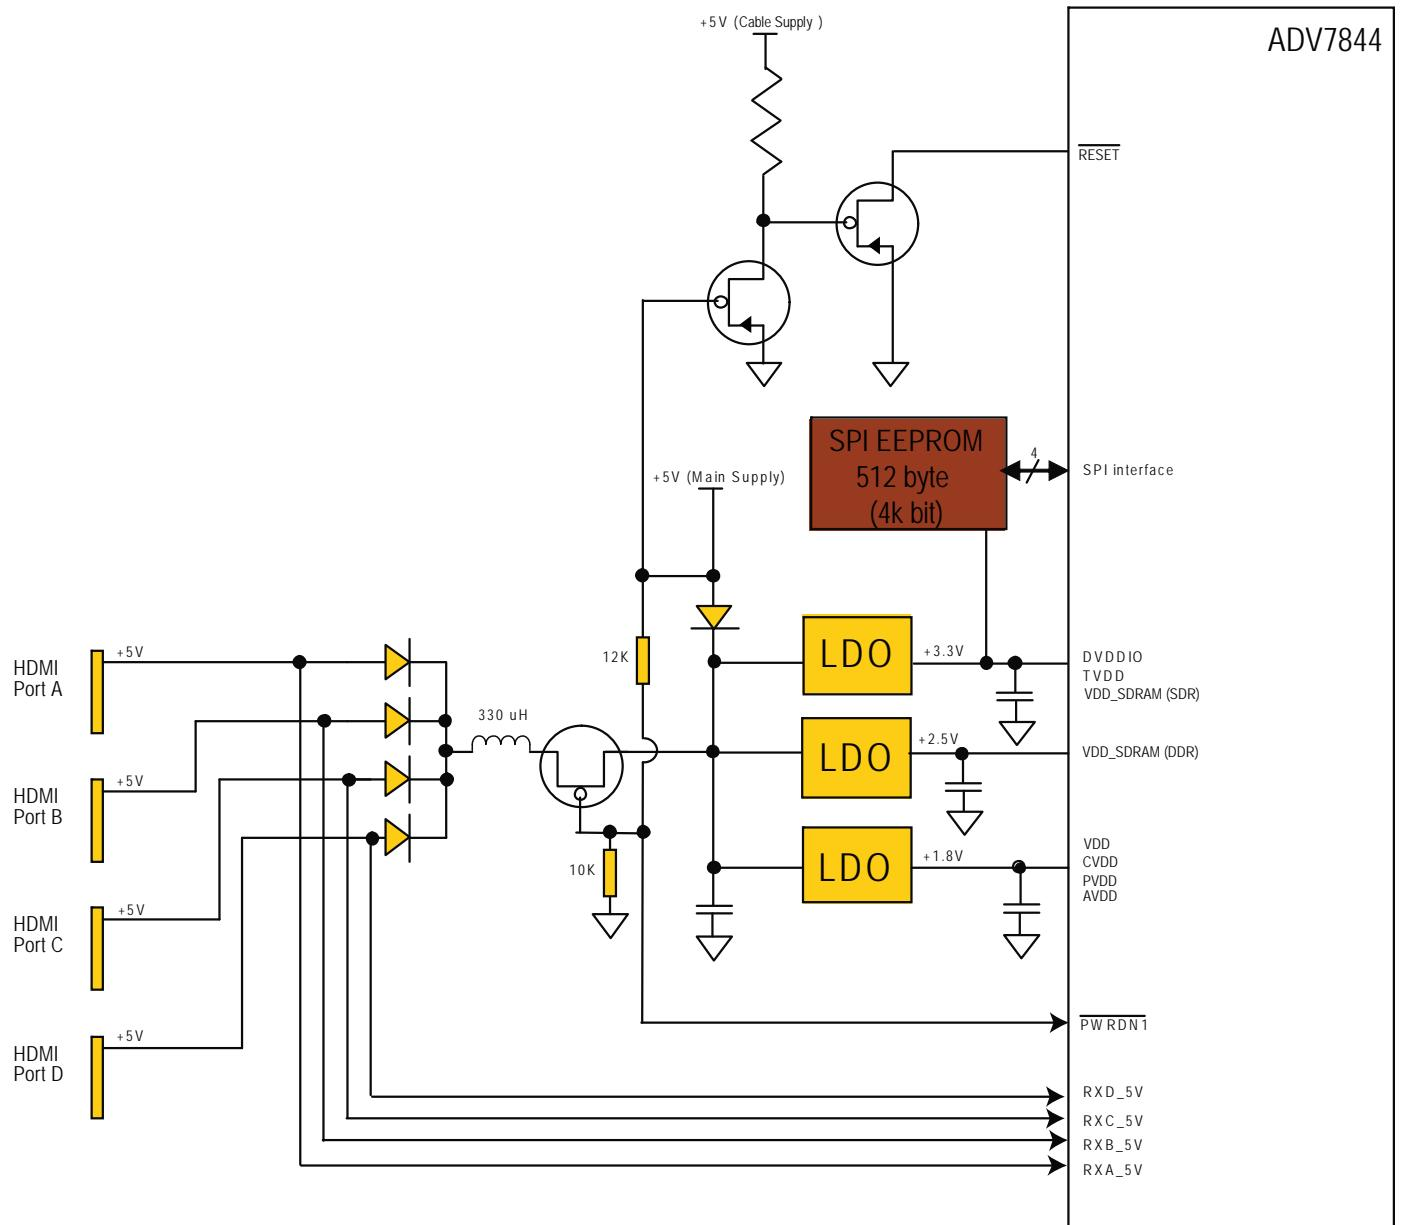

Figure 4: Required Hardware Configuration when Using +5 V from HDMI Source(s) to Provide Supplies in Power-down Mode 0 or 1
The ADV7842 should be put into power-down mode 0 by feeding a low voltage on the **PWRDWN1** pin. Refer to Figure 4 for the required hardware configuration.
The configuration shown in Figure 4 is required for hardware power-down with internal E-EDID availability.
- The RESET pin must go low before or at the same time as the PWRDN1 goes low. The circuitry in Figure 4 is required to ensure this occurs. It is important to note that this requirement must be met even if the main supply is removed without notice, for example, if a TV is disconnected abruptly from the wall socket.